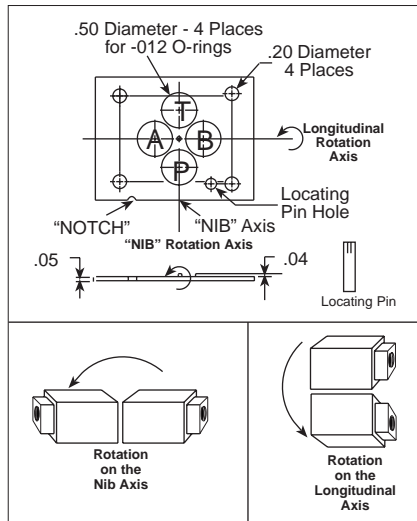

Figure 1: Body Rotation Reference
Sun’s ISO 03 sandwich bodies are designed for multi-functional use to permit maximum circuit flexibility. Due to this versatility, the ISO 03 sandwich bodies do not have a counterbore for installing O-ring seals. Instead, Sun uses a special seal plate with a raised “NIB” and a locating “NOTCH”. Sun bodies incorporate oversize, symmetrical mounting holes to allow the bodies to be rotated about the “NIB” axis and the longitudinal axis as shown in Figure 1.
1. Place the Sun seal plate, with the “NIB” facing upward, in the proper position to correctly align the mounting holes and fluid ports. At this time, the “NOTCH” in the seal plate must be adjacent to the “P” port of the valve interface. See Figure 1.